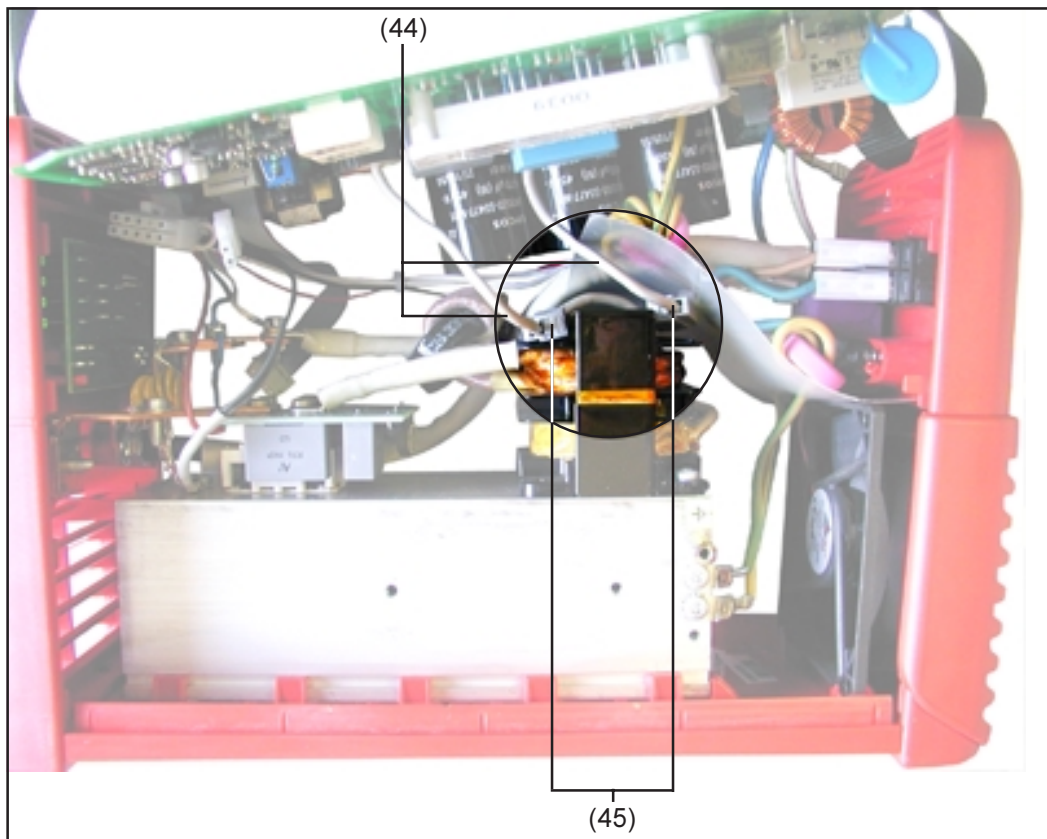

Fig. 11
- Arrange the “LCA15 board transformer leads” (44) in such a way that the WAGO connectors (45) are resting on the transformer coil body, as shown in Fig. 11